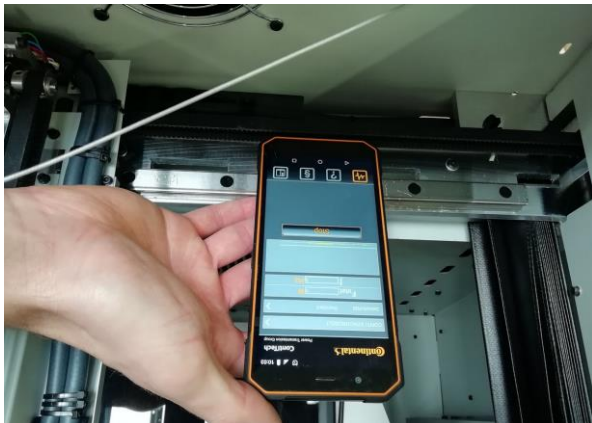

Fig. 41 Measurement location of the timing belt tension on the X1 axis
- Place the phone with the microphone facing the toothed belt side at the third black mounting hole of the linear guide counting from the right side of the printer (Fig. 41).